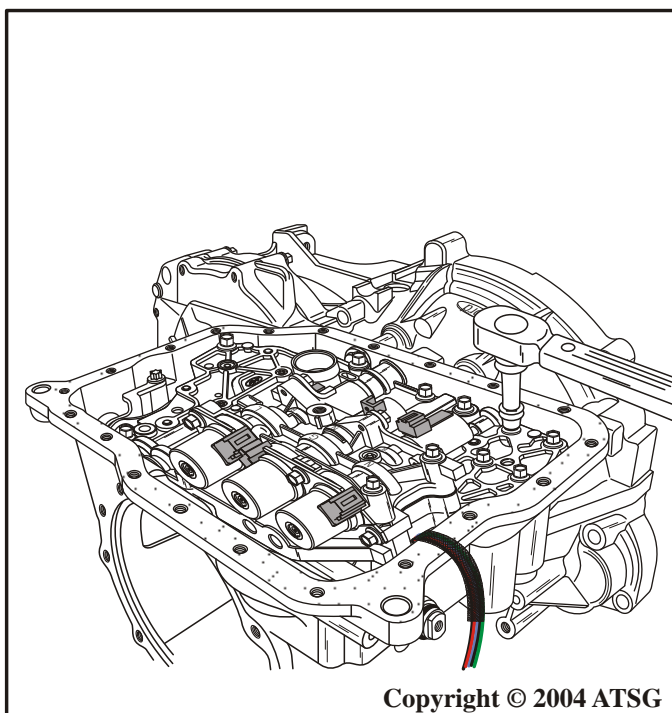

Figure 160
16. Torque all of the valve body to case bolts to 9 N•m (80 in.lb.), as shown in Figure 160.